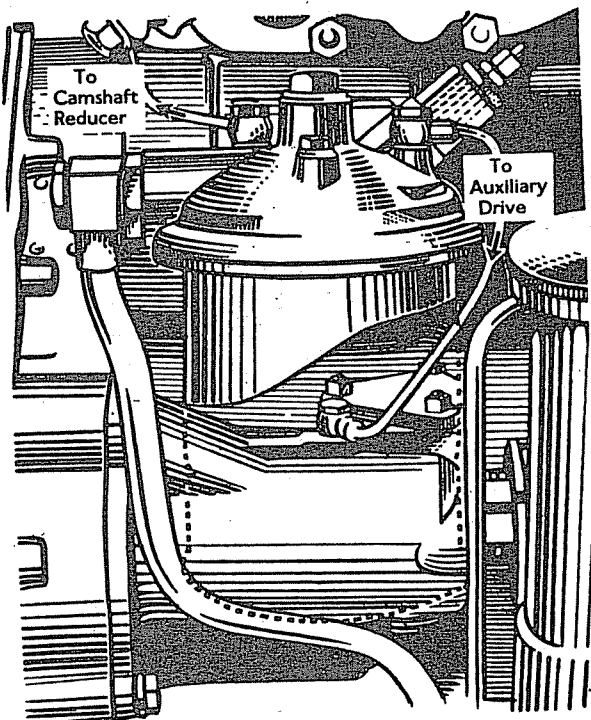

Fig. 42.
- (1) The pump, 10, draws oil through the strainer, 9, from the sump, 5. It delivers to the relief valve cover, 12, through the outlet passage, 11.
- (2) The oil then flows along pipe, 14, to filter, 17.
- (3) At the outlet, 22, from this filter the flow passes along pipe, 26, to the pressure rail, 7. The outlet union on the filter is drilled to allow for the connection of the oil pressure gauge pipe.
- (4) The pressure rail, 7, is an internal passage within the crankcase. Holes, 4, drilled in the crankcase webs lead from this pressure rail to the crankshaft bearings and holes, 3, in the crankshaft carry the oil to the big end bearings. Surplus oil is returned to the sump, 5.
- (5) An oil thrower ring, 1, prevents oil from leaking along the crankshaft at its rear end and any oil thrown from this ring returns by the passage, 2, to the sump.
- (6) Two oil feeds are taken from the oil filter head.
- (7) One pipe carries oil at full pressure to the auxiliary drive body, See Figure 42.